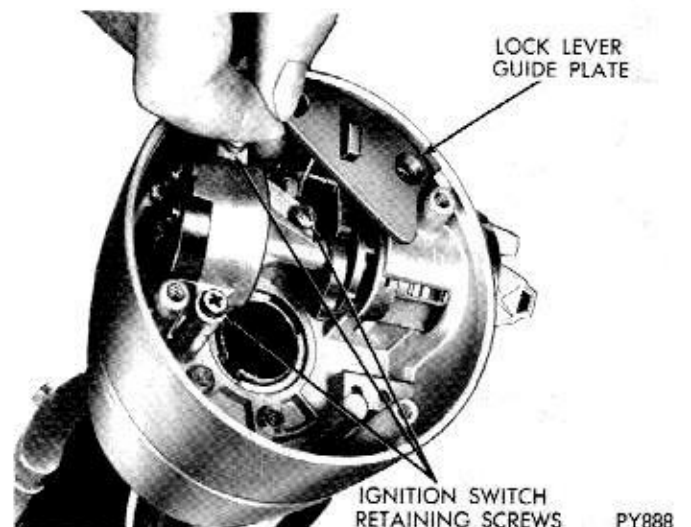

Fig. 9—Lock Lever Guide Plate
(3) Remove two retaining screws and the lock lever guide plate which will expose the lock cylinder release hole (Fig. 9).
(9) Install the lock lever guide plate and retaining screws (Fig. 9).